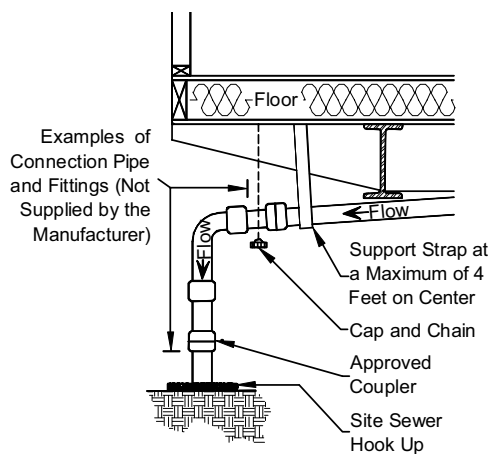
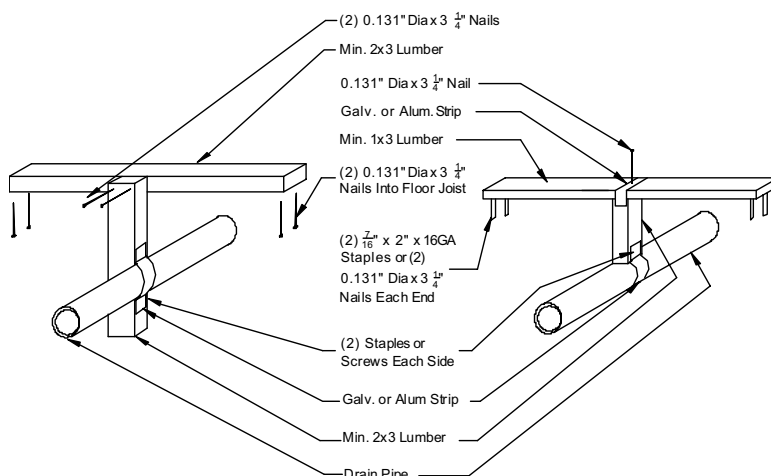

Figure 65. DWV connection to sewer/septic
Figure 66. DWV pipe support options
4. **Connect to outlet.** Connect the main drain line to the site sewer/septic hook-up, using an approved elastomer coupling (**Figure 65**).
- 5. Install supports.** Install permanent drain line supports at a distance of four feet o.c. or less (see **Figure 63**, **Figure 65**, and **Figure 66**).